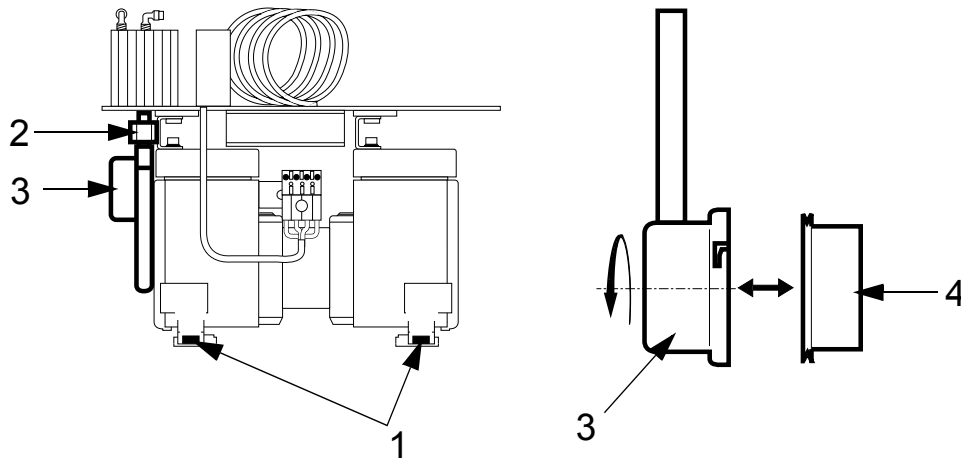

Fig. 15 Replacing the suction filter
- 1 Unscrew both Allen screws (Fig. 15/1).
- 2 Unscrew pressure hose (Fig. 15/2) using open-end wrench WAF 19.
- 3 Pull compressor out until filter housing (Fig. 15/3) becomes accessible.
- 4 Rotate filter housing (Fig. 15/3) clockwise and remove.
- 5 Remove suction filter (Fig. 15/4) and replace with new one.
- 6 Re-install the suction filter (Fig. 15/4).